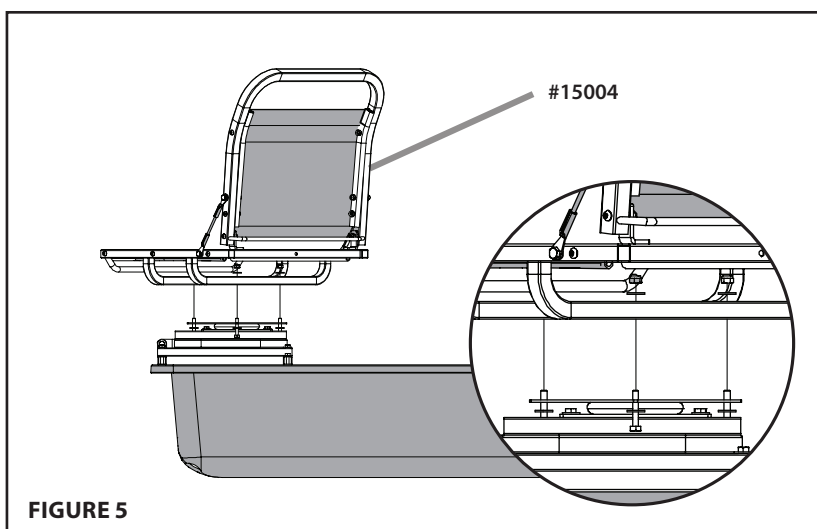

FIGURE 5
5. [FIGURE 5]
Assemble seat versa top (#15004) to swivel versa mount (#15016) using (4) ¼ - 20 x 1½ bolts (#48240), (4) Nyloc nuts (#67538), and (8) ¼" washers (#48261). **NOTE: Insert bolt thread-up through swivel plate and seat as shown in Figure 5.**